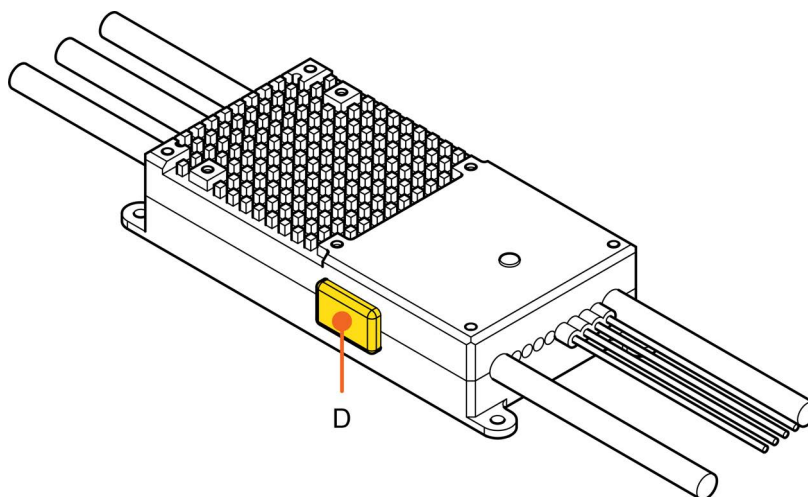

Figure 4-28 Removal of USB connector cover
- 5) Remove the plastic lid if installed (→ Figure 4-28; “D”) from the UAV-ESC housing to access the USB connector X9.